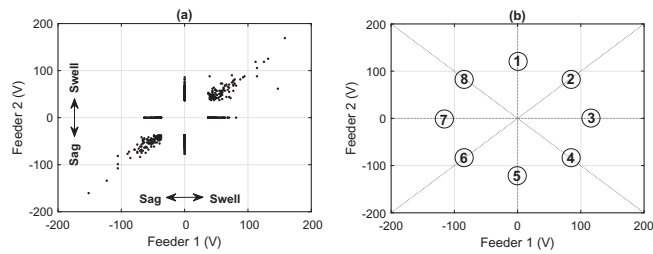

Figure 2.40 Cross-examining voltage events between two feeders in Exercise 2.11 [139].
2.11 Consider two neighboring power distribution feeders, and suppose we cross-examine all RMS voltage events above 0.5% rated magnitude. The results based on one month of minute-by-minute RMS voltage measurements are shown in Figure 2.40(a). Each point indicates one event. The location on the x-axis indicates the *change* in voltage on Feeder 1. The location on the y-axis indicates the *change* in voltage on Feeder 2. Suppose we *classify* the event points into eight groups, as shown in Figure 2.40(b). The number of events in each of these eight groups is 107, 102, 67, 0, 106, 104, 65, and 0, respectively.